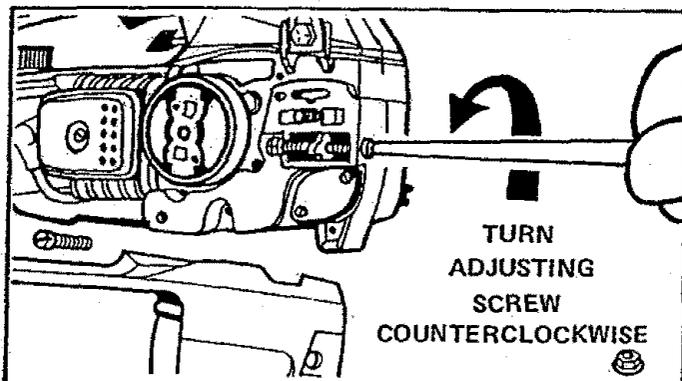

Figure 2
- a. Remove the following parts as shown in Figure 2, using the Bar Adjusting Tool provided with the unit.
- b. Turn the Adjusting Screw counterclockwise to move the Adjusting Pin almost as far as it will go to the rear. Figure 2.